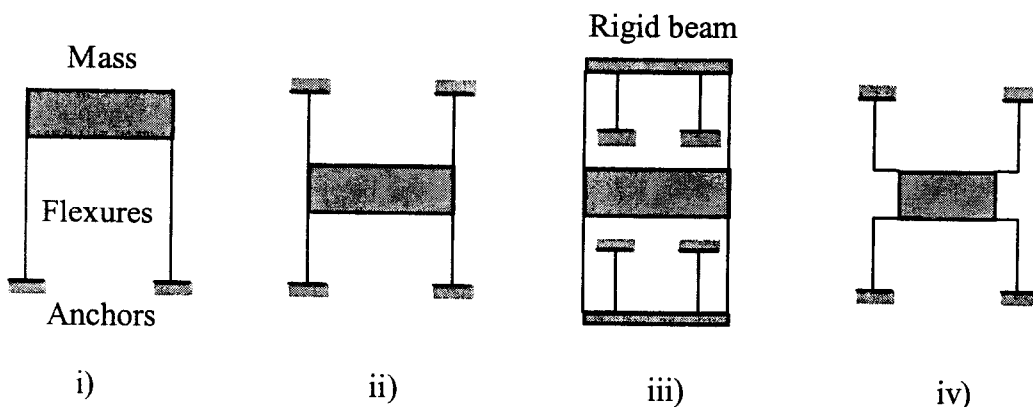

Figure 7.1
7. a) Figure 7.1 shows, in plan view, four different types of elastic suspension used in microelectro-mechanical systems (MEMS). Explain briefly how they each operate, and describe any special advantages they might have. [8]
- b) A silicon MEMS beam has cross-sectional dimensions of  $100\ \mu\text{m} \times 10\ \mu\text{m}$ . Calculate the value of the second moment of area  $I$  for bending of the beam about its two orthogonal axes. A flexure suspension of type i) in Figure 7.1 is fabricated in a  $100\ \mu\text{m}$ -thick layer using  $10\ \mu\text{m}$ -wide beams, each of length  $2\ \text{mm}$ . Calculate the lateral stiffness of the suspension. [12]